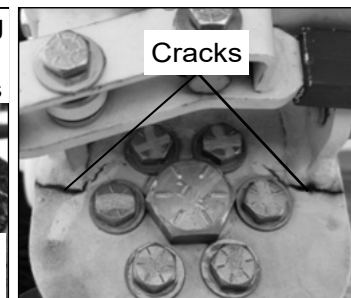

Figure 3 – Inspecting For Cracks
6. Thoroughly clean the top plate of the leveling bracket. Using a bright light, inspect the top plate for any visible cracks (refer to Figure 3). If there are any cracks, proceed to step 11.